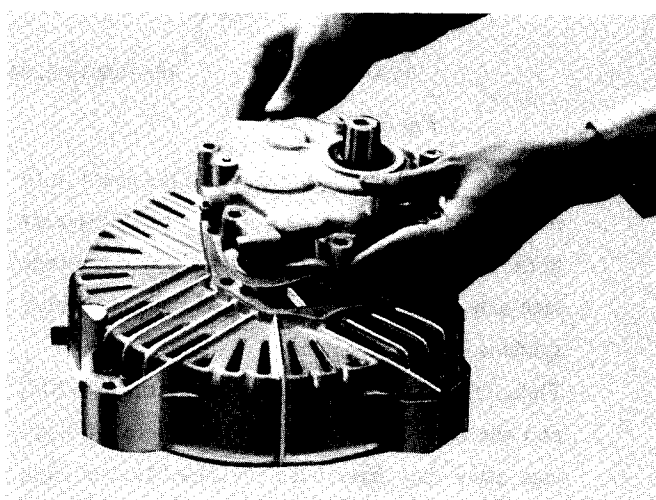

Fig. 12-9
- i) Cover the gear case. (Don't give physical impacts with such tools as a hammer to compulsorily set it.) (See Fig. 12-9.)